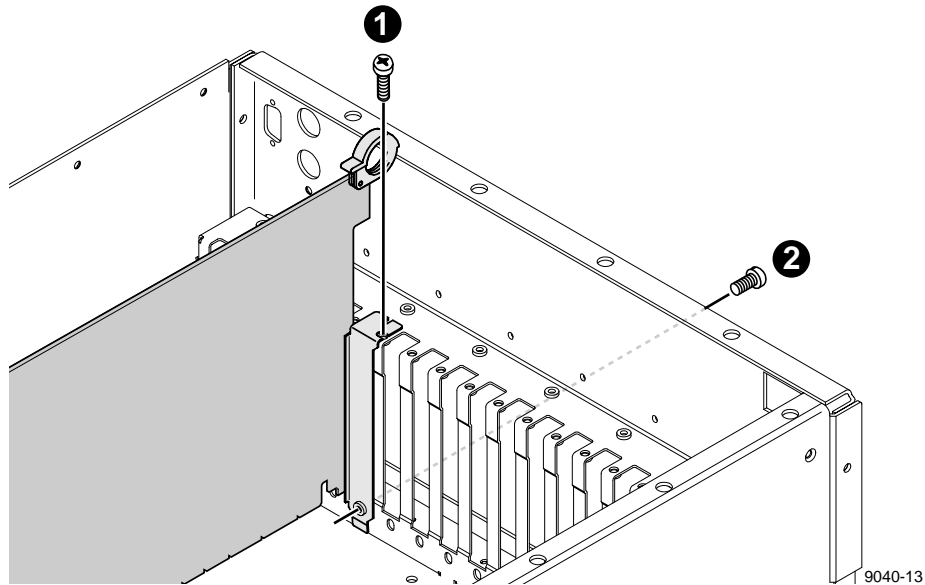

Figure 7. Screw Locations for Board Mounting Bracket
3. Use the Torx tool with the T15 tip to install the mounting screws in the top of the bracket inside the chassis (❶ in Figure 7) and through the rear panel at the bottom of the bracket (❷ in Figure 7).